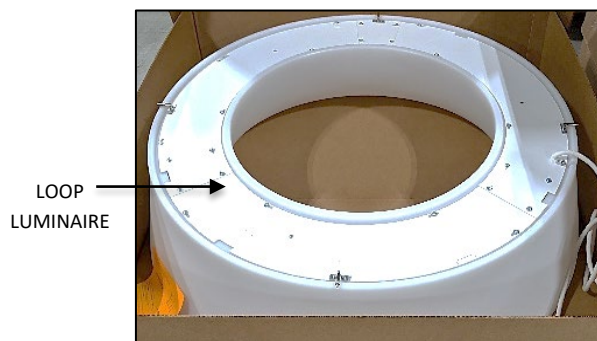

FIG.3 LOOP LUMINAIRE (PRE-ASSEMBLED)
1. LOOP LUMINAIRE. (Pre-assembled as shown in FIG. 3)